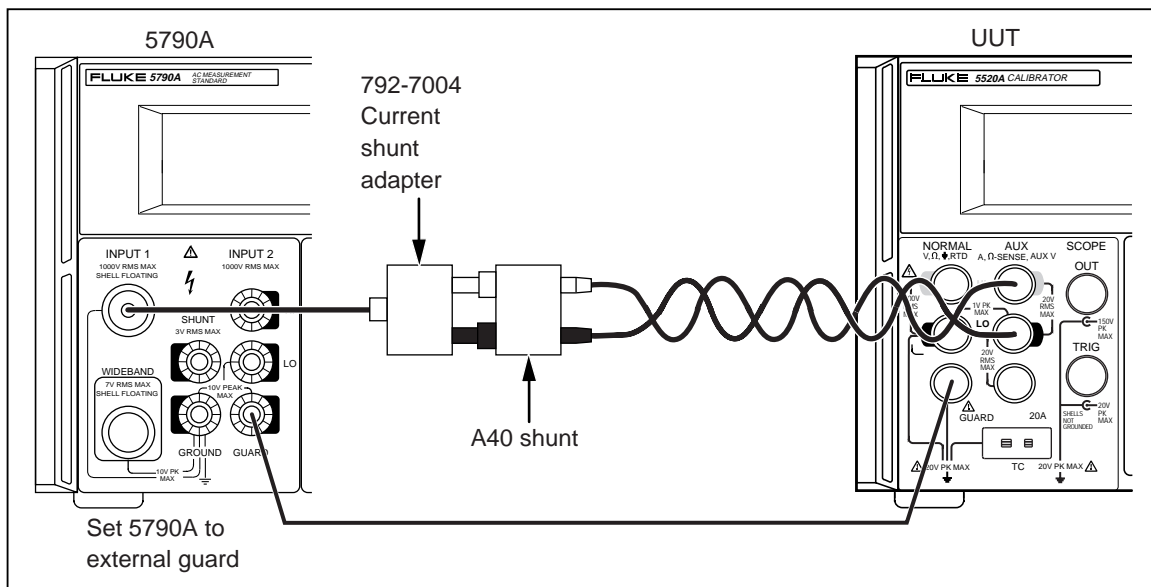

Figure 3-7. Connections for Calibrating AC Current with a Fluke A40 Shunt
1. Connect the test equipment as shown in Figure 3-7.